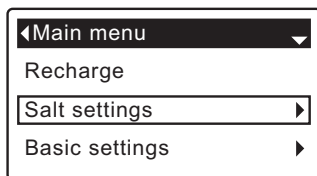

FIG. 29
2. Press the DOWN ▼ button to scroll through the menu options until **Salt settings** is highlighted (See Figure 29).